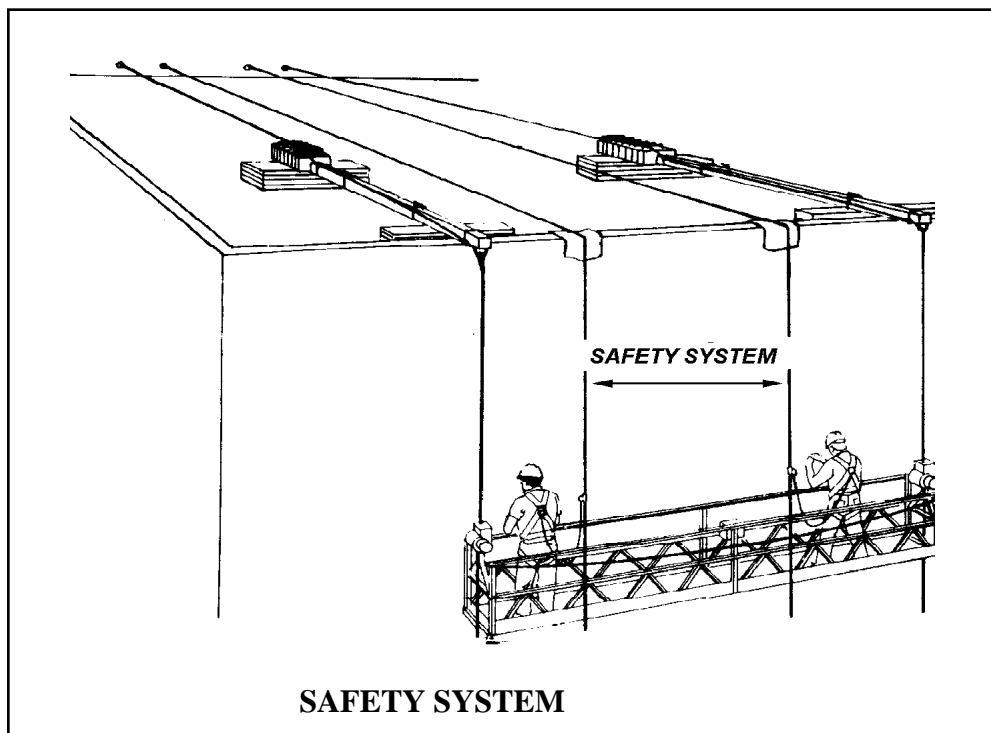

FIG. 1-4
**The Safety System** is also called the **Personal Protective or Fall Arrest System**. (Fig. 1-4). Its main duty is to protect you. It is your last line of defense against mistakes. The basic parts of the Safety System are your lifeline anchorage, your lifeline, your shock absorber, your rope grab, and your body harness. **Body harness** is the term used to describe the harness that holds your body in a fall.
The most widely used fall-arrest system is the **independent hanging lifeline** system (Fig. 1-4). The **lifeline** is the rope that connects your personal fall equipment to the lifeline anchor above. It takes the load when you fall and it absorbs some of the shock of the fall. The **lifeline anchor** holds the upper or tensioned end of your lifeline and by law, the anchor has to be strong.